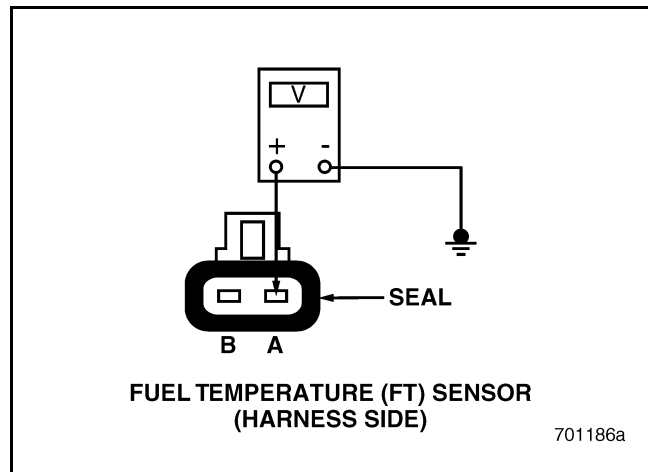

Figure 61
4. Check for continuity between pin A of the FT Sensor harness connector and a good ground (see Figure 61).